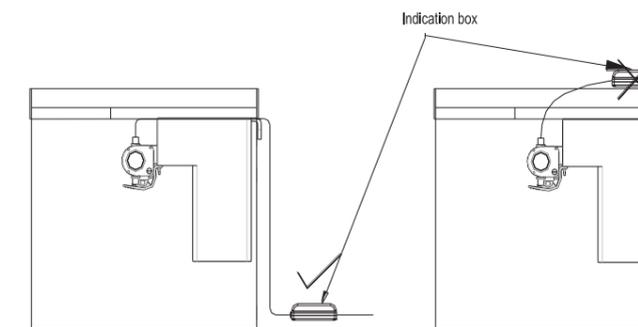

Fig.2
4. To avoid the risk of shorting by water vapor, the LED indication box MUST be on the outside of the tank but NEVER on the top of the tank. (Refer to Fig.2)